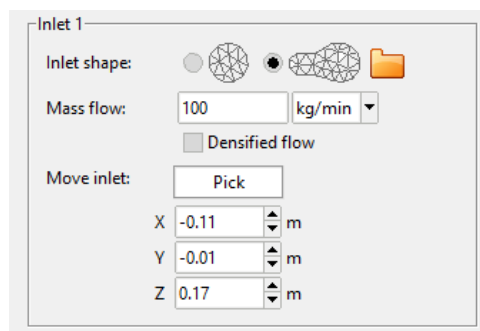

Figure 19. Definition of a custom shaped inlet.
- **Custom shaped inlet:** in this case, inlet must be imported as a STL file format from any CAD software (Figure 19). It must be taken into account that the generated surface should be a planar surface. Otherwise, errors can arise when particles are generated, since they are injected into each of the mesh nodes and the spheres that generate them must not intersect.